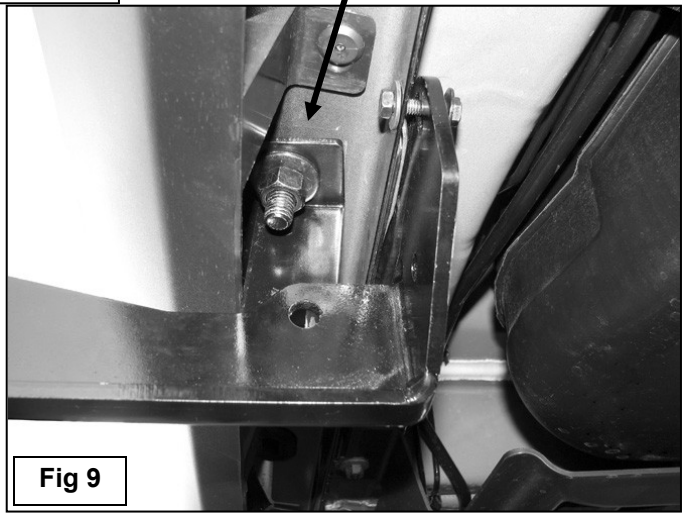
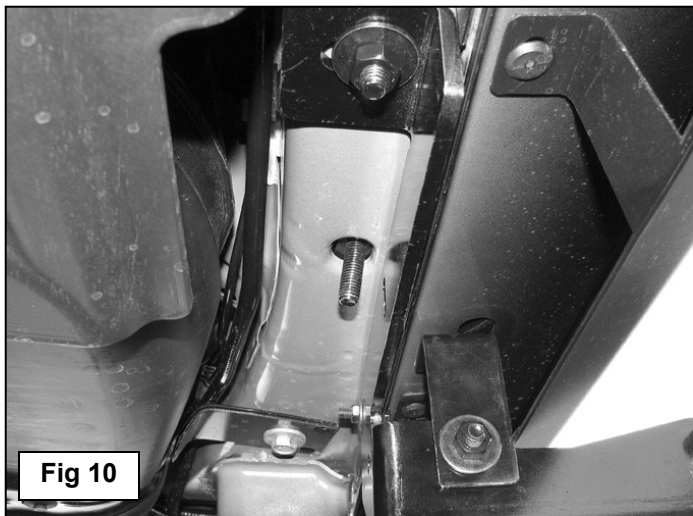
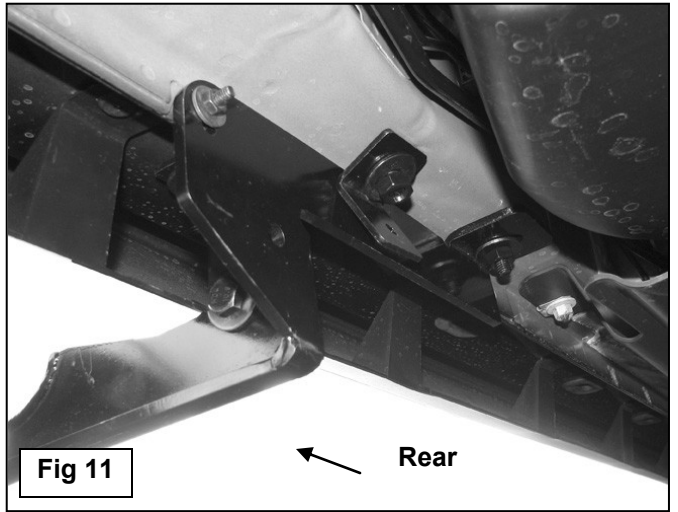
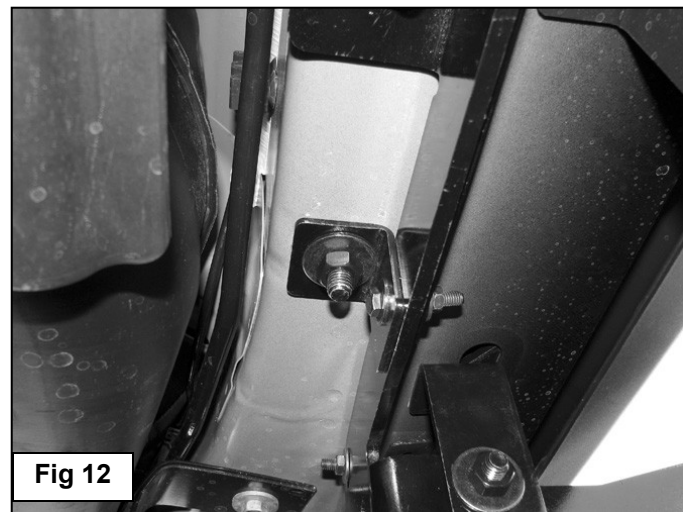

Fig 9
Fig 10
Fig 11
Fig 12
6. Next, select the Driver Side Rear Mounting Bracket. Bolt the Mounting Bracket to the back of the pinch weld with (1) M6 x 25mm Hex Bolt, (2) M6 Flat Washers and (1) M6 Nylon Lock Nut installed in the rearmost mounting hole, **(Figure 9)**. Hang the Bracket from the previously installed forward Bolt Plate with (1) M10 Flat Washer, (1) M10 Lock Washer and (1) M10 Hex Nut, **(Figure 10)**. Line up the hole in the Outer Support Bracket with the hole in the Mounting
Bracket. Bolt the Brackets together with (1) M10 x 30mm Hex Bolt, (2) M10 Flat Washers, (1) M10 Nylon Lock Nut, (Figure 10 & 13). Note: The Outer Support Bracket will line up on the forward facing side of the Mounting Bracket. Do not tighten hardware at this time.
7. Locate the oval hole behind the midpoint of the Bracket. Insert (1) M10 Large Bolt Plate into the hole and rotate 90-degrees to the oval hole as described in Step 4, (Figure 10). Select the Rear Inner Support Bracket. Bolt the Support Bracket to the Bolt Plate with (1) M10 Flat Washer, (1) M10 Lock Washer and (1) M10 Hex Nut, (Figure 11). Line up the remaining hole in the Support Bracket with the hole in the middle of the Mounting Bracket. Bolt the Support Bracket to the Mounting Bracket with the longer (1) M6 x 30mm Hex Bolt, (2) M6 Flat Washers and (1) M6 Nylon Lock Nut, (Figure 12). Do not tighten hardware.